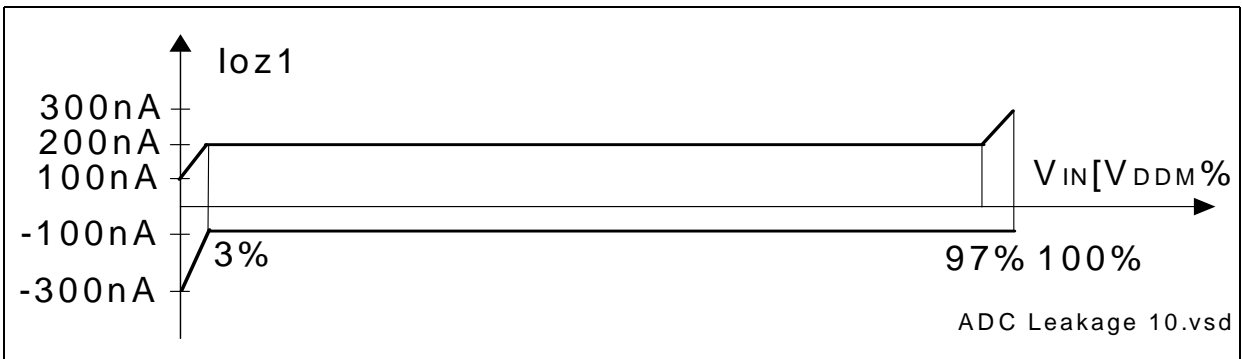

Figure 20 ADC0/ADC1 Analog Inputs Leakage
- 11) The leakage current definition is a continuous function, as shown in Figure 20. The numerical values defined determine the characteristic points of the given continuous linear approximation - they do not define step function.